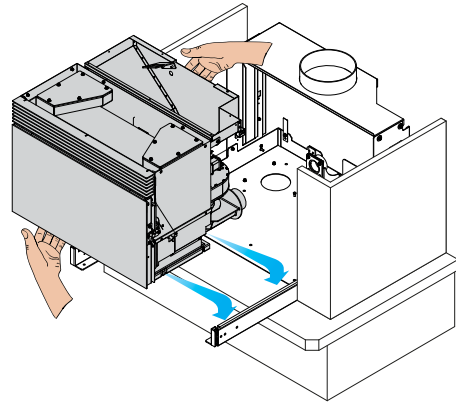

fig. 6.1.10
- 10) Place the insert back on the rails (fig. 6.1.10)